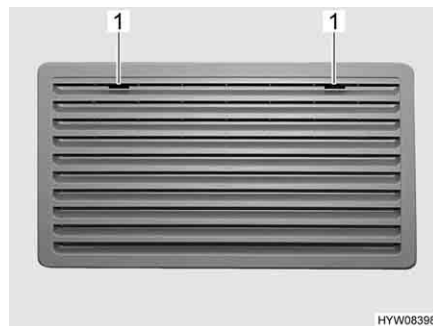
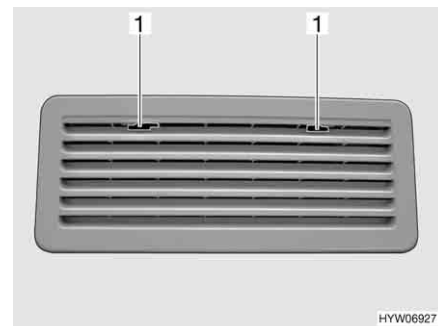

Fig. 222 Refrigerator ventilation grill (Thetford large)
Fig. 223 Refrigerator ventilation grill (Thetford small)
- Move the locking device (Fig. 222, 1 or Fig. 223, 1) to the middle.